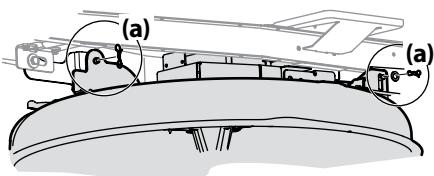

Figure 4-8
5. Remove the remaining bow-tie cotter pins (a) securing the deck to the rider, as shown in Figure 4-8.
5. Secure the deck to the deck lift arms using two bow-tie cotter pins. See Figure 4-8.